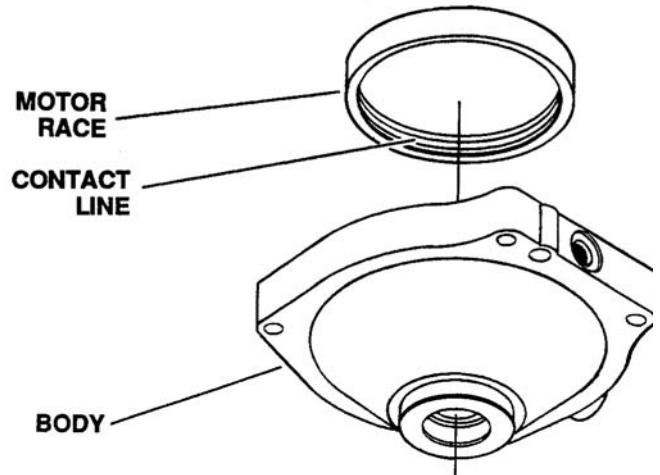

Figure 6-84. Inspecting Motor Race
3. Inspect the contact line of the motor ball pistons on the motor race located in body. This contact area must be smooth and completely free of any irregularities if any irregularities are noted, replace the motor race. See Figure 6-84.